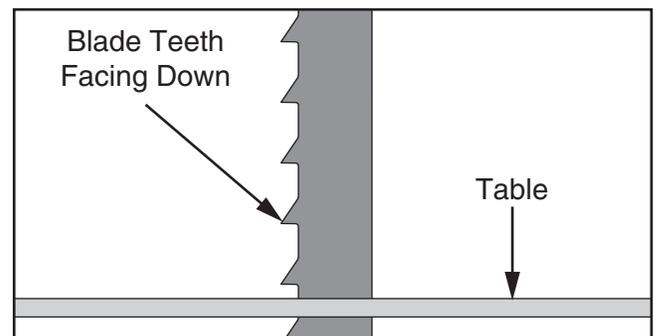

Figure 9. Correct blade teeth orientation.
5. Verify blade teeth are facing down through table, as shown in **Figure 9**.